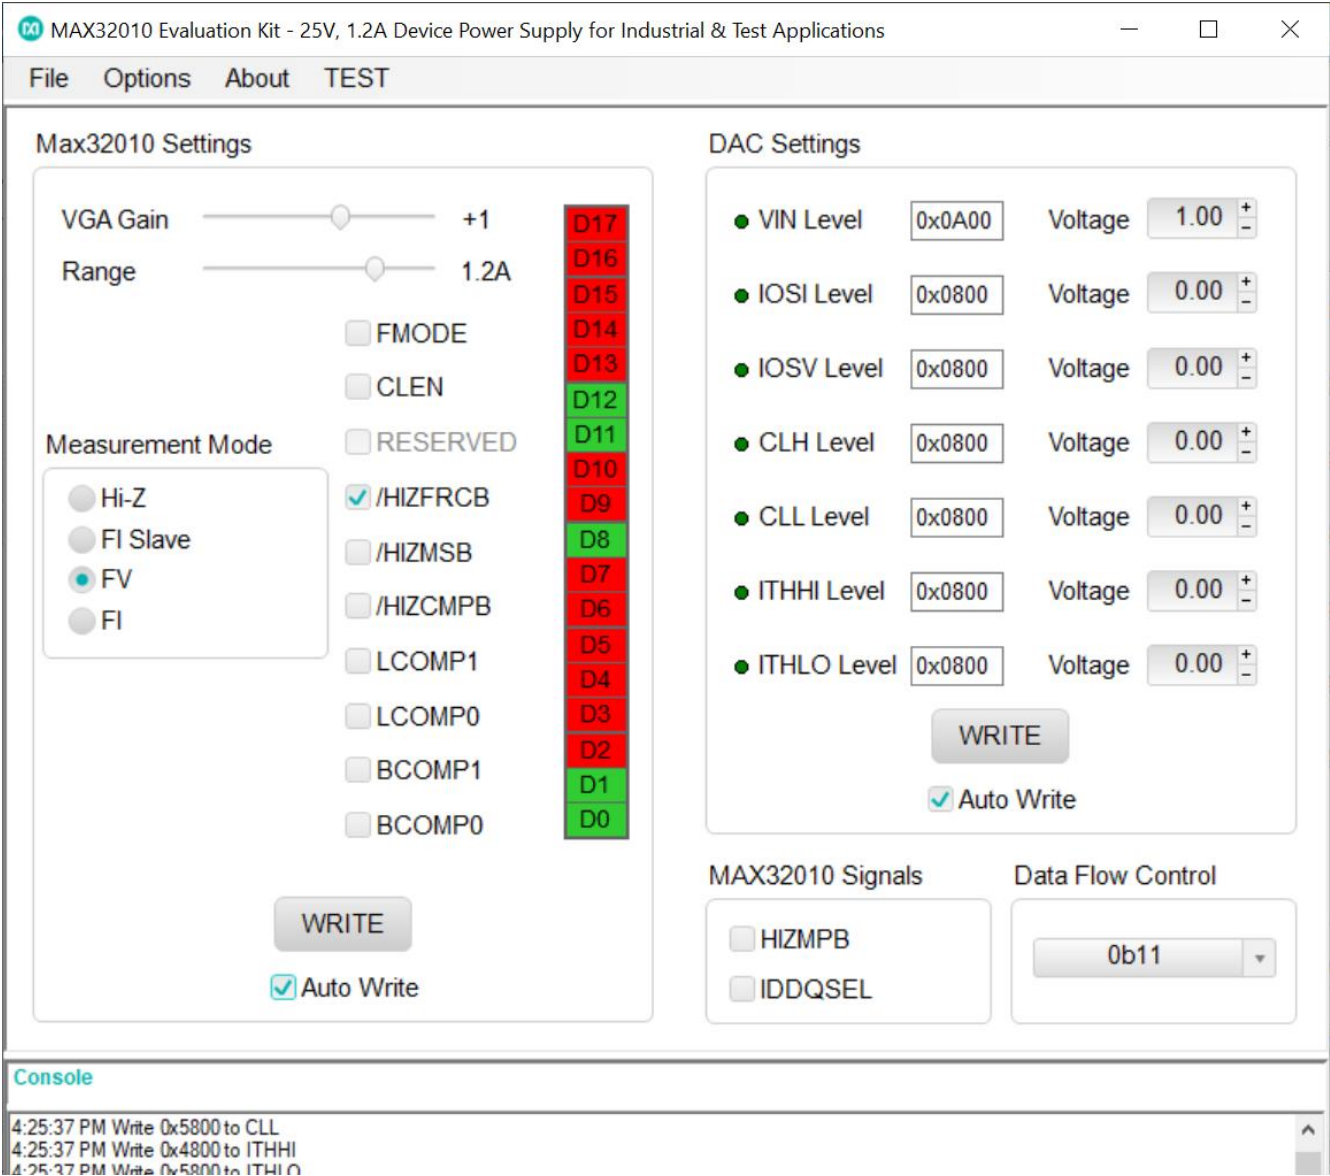

Figure 1. MAX32010 EV Kit Quick Start Settings
- 5) Start the MAX32010 EV kit software by opening its icon in the **Start | Programs** menu. The EV kit software main window appears, as shown in Figure 1.
- 8) Check that the output voltage at DUT_NODE is close to +1V. Figure 1 shows the MAX32010 EV kit quick start settings.
The main window of the evaluation kit software is shown in Figure 1. The MAX32010 GUI is organized into four group boxes for all level setting registers and control signal settings, along with the **File** menu to save and load all these settings.